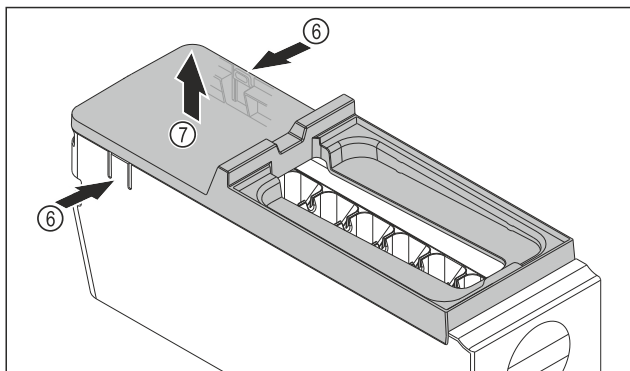

Fig. 97
- Removing the EasyTwist-Ice body cover: Push the tabs Fig. 97 (6) on both sides of the EasyTwist-Ice body with one hand.
- Use the other hand to remove the cover Fig. 97 (7) upwards.